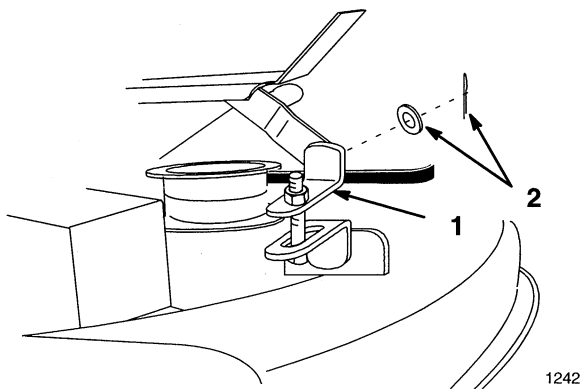

Figure 6
- Install front adjustable link to front lift arm with washer and hairpin cotter (Fig. 6).
- Secure adjustable link to front lift arm with washer and hairpin cotter (Fig. 6).